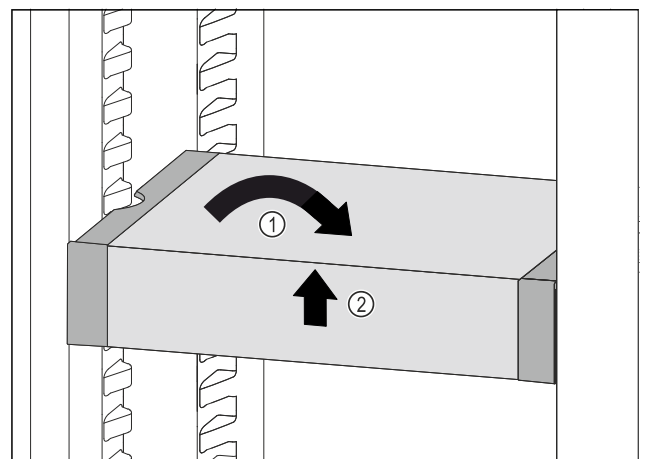

Fig. 72
- ▶ Set VarioSafe straight. Fig. 72 (1)
- ▶ Lift VarioSafe at the front. *Fig. 72 (2)*